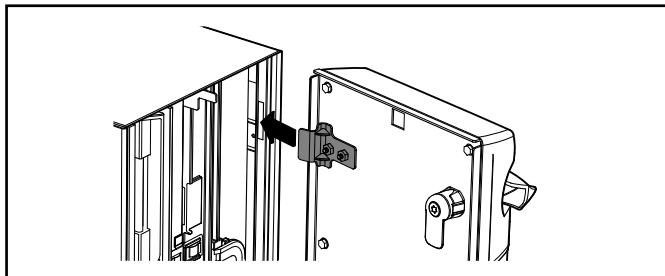

Figure 11
Step 1: Hold door so that tabs are aligned with slots in cabinet as shown in Figure 11.